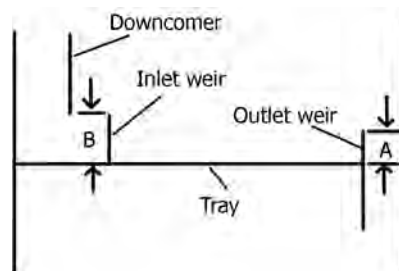

FIGURE 16.12 Weir height.
- Inlet weir height, B > outlet weir height, A , as illustrated in Figure 16.12.